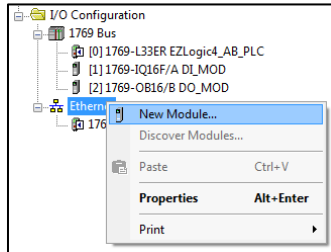

Figure 4: I/O Configuration Ethernet section
2. At the bottom of section *Controller Organizer* pane look for the *I/O Configuration* folder / *Ethernet*, select and right click. Select *New Module...* See figure 4.